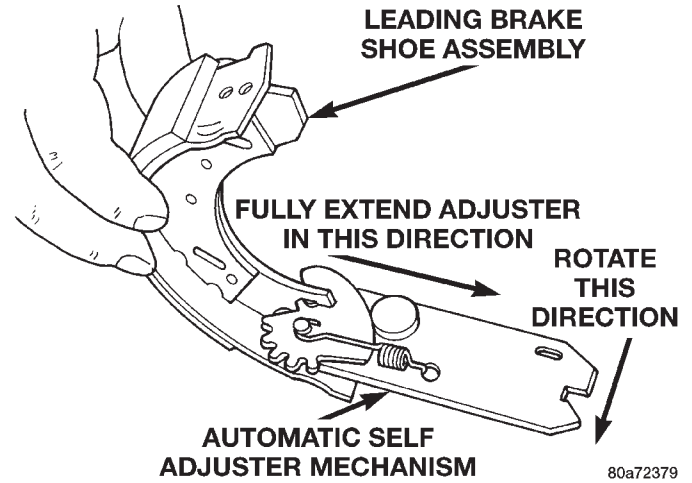

Fig. 115 Removing Adjuster Mechanism From Leading Brake Shoe
(14) Remove the automatic adjuster mechanism from the original leading brake shoe assembly for installation on the replacement brake shoe, using the following procedure. Fully extend the adjuster mechanism in the direction shown in (Fig. 115). Then, with adjuster mechanism fully extended, rotate the
adjuster mechanism in the direction shown in (Fig. 115) to separate adjuster mechanism from leading brake shoe.